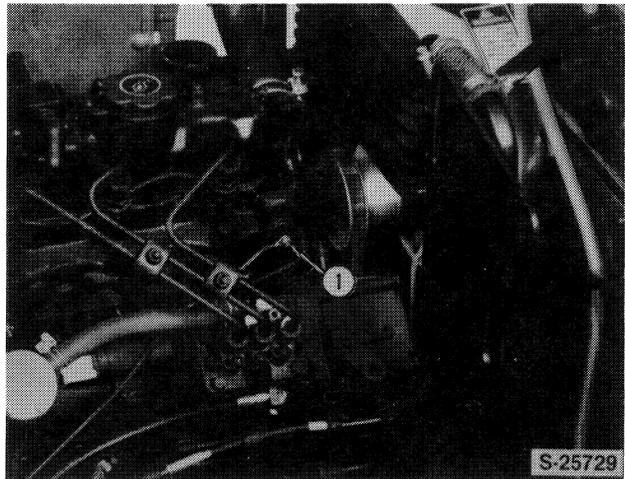

Figure 15
16. Remove the oil pressure switch (1), Figure 15.